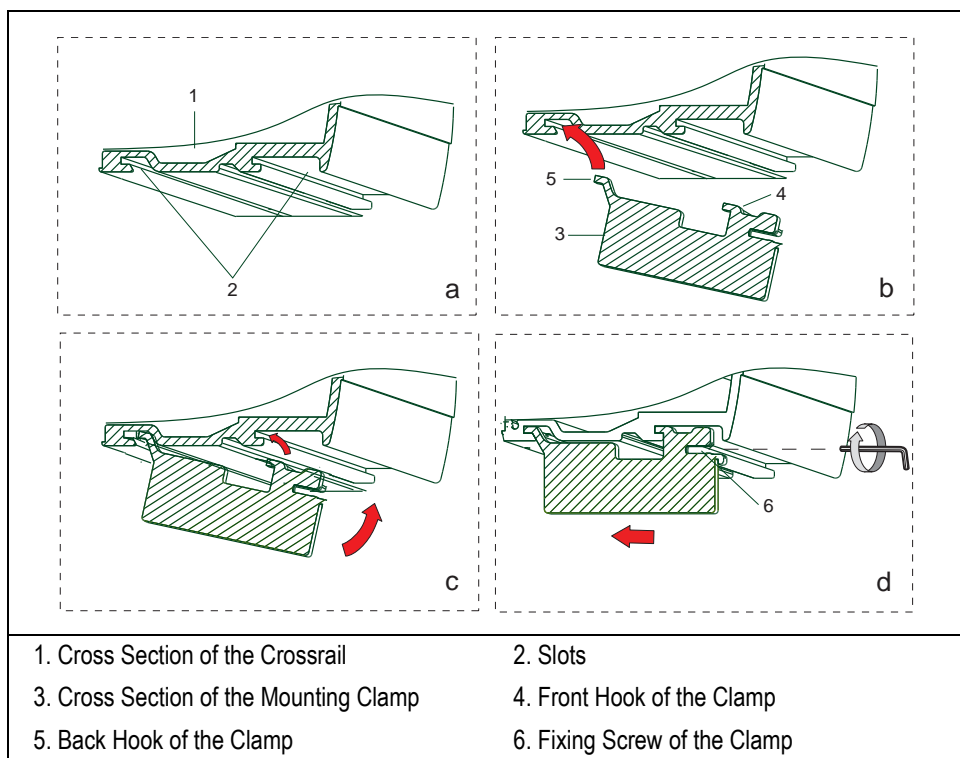

Figure 3-24. Hooking Sequence of the Clamp (1)
Referring to Figure 3-24 proceed as follows:
- Uplift the crossrail X and place it on the top of the two supports tilting it slightly downwards in a way that the back hook of the clamp, located on the top of the support leg, slips into the proper slot. See **b** of Figure 3-24.
- Slightly push the crossrail backwards so that the hooks of the clamps perfectly anchor thereto. See **c** and **d** of Figure 3-24.